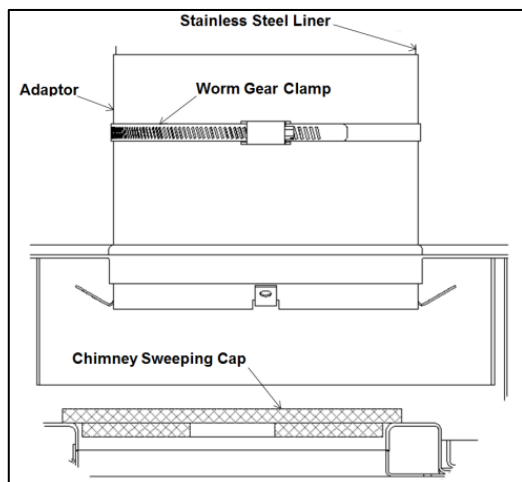

Figure 3-5: Liner Adaptor Installation
- e) Reposition the chimney sweeping cap back in the chimney sweeping cap hole of the baffle (refer to Figure 3-5).